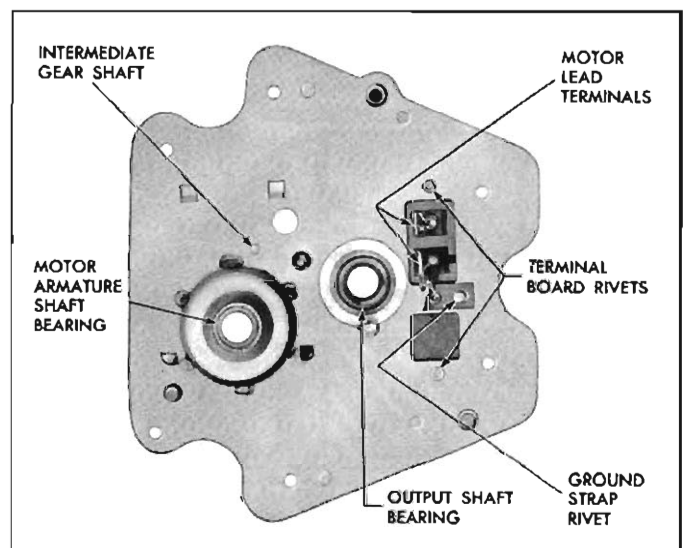

Fig. 8-12—Terminal Board—Single Speed Wiper
- b. Drill out rivets securing terminal board and park switch ground strap to mounting plate (fig. 8-12).